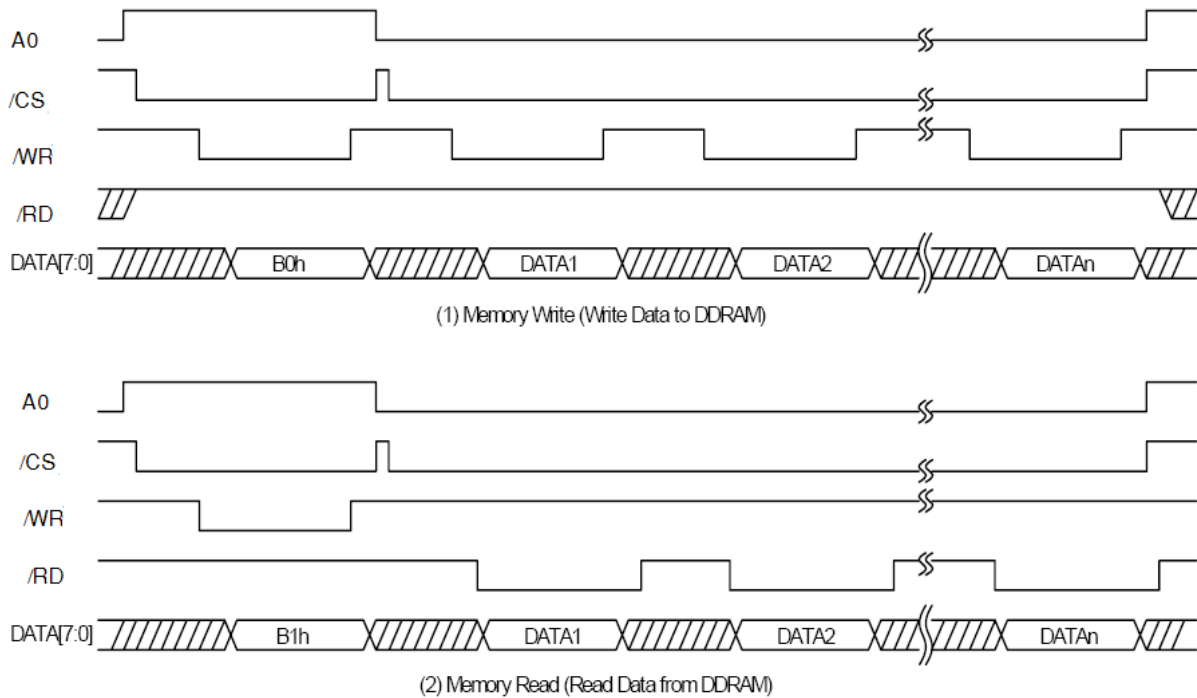

Figure 10-4 : Memory Write/Read Cycle
When users want to write data to memory – DDRAM or CGRAM, then a special Command cycle has to execute first, the register have to assign to “B0h” on Data Bus. Then the following Data Write cycle will write data into memory. If users want to read data from memory, then the register has to assign to “B1h” on Data Bus in Command Write cycle. Please see the following Figure 10-4 (1) and (2).